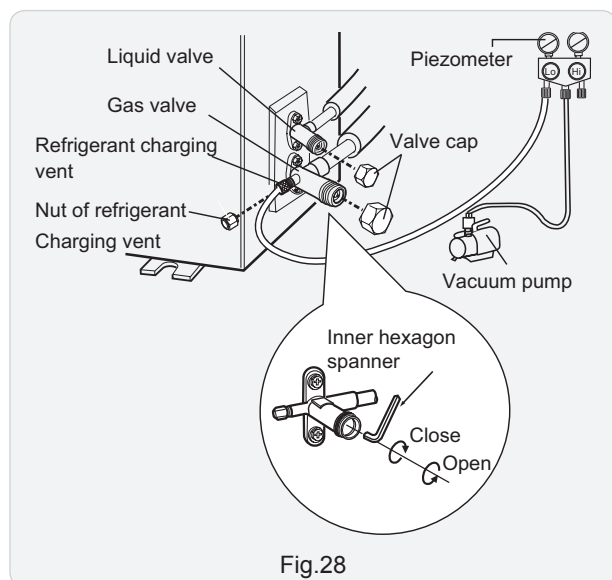

Fig.28
(1) Remove the valve caps on the liquid valve and gas valve and the nut of refrigerant charging vent.
(2) Connect the charging hose of piezometer to the refrigerant charging vent of gas valve and then connect the other charging hose to the vacuum pump.
(3) Open the piezometer completely and operate for 10-15min to check if the pressure of piezometer remains in -0.1MPa.
(4) Close the vacuum pump and maintain this status for 1-2min to check if the pressure of piezometer remains in -0.1MPa. If the pressure decreases, there may be leakage.
(5) Remove the piezometer, open the valve core of liquid valve and gas valve completely with inner hexagon spanner.
(6) Tighten the screw caps of valves and refrigerant charging vent.(As show in Fig.28)